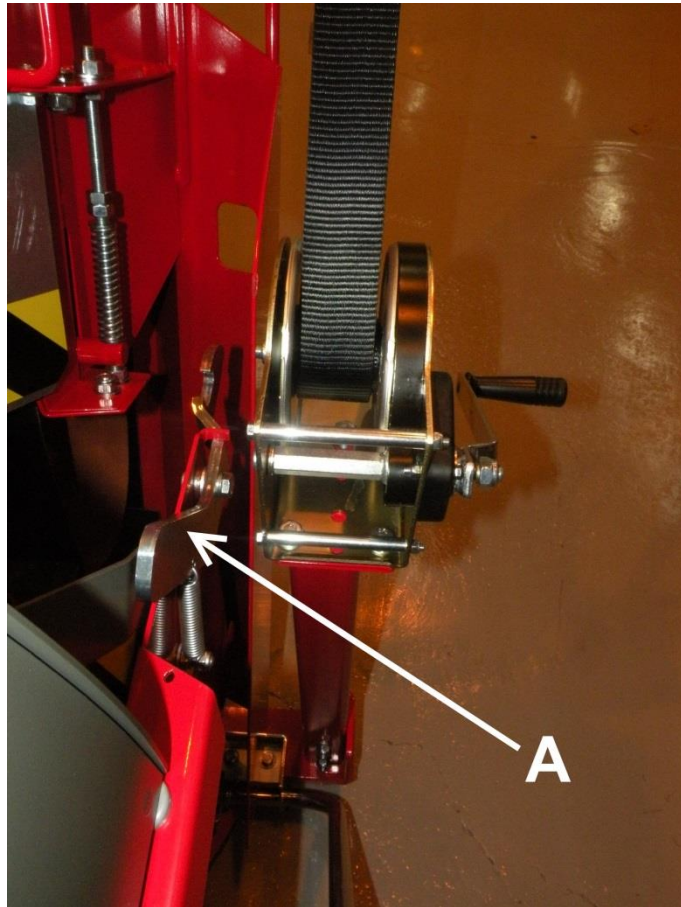
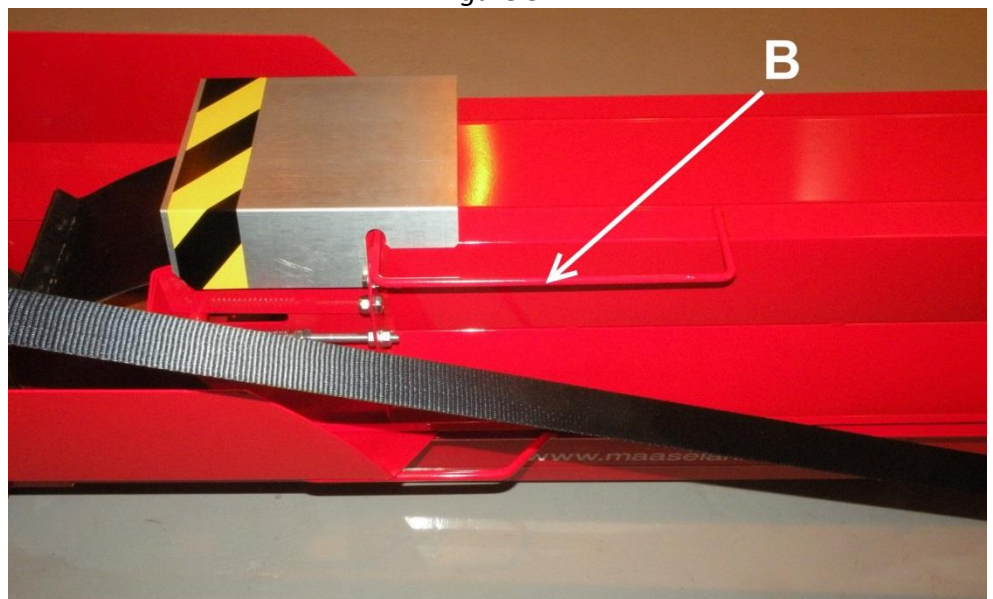

Figure 5.
Figure 6.
4. Turn the upper section of the conveyor into the operating position by using handle B in Figure 6.
3. Turn support bar C in Figure 6 to a position over the belt, and turn the upper section of the conveyor onto the lower section using handle B in Figure 5.